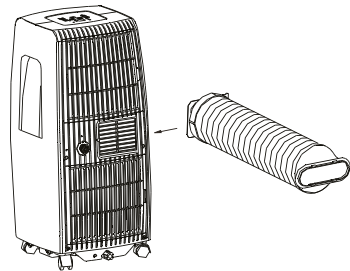

Fig. 4-3
2. Install hose for air outlet into the hole (Fig. 4-3).